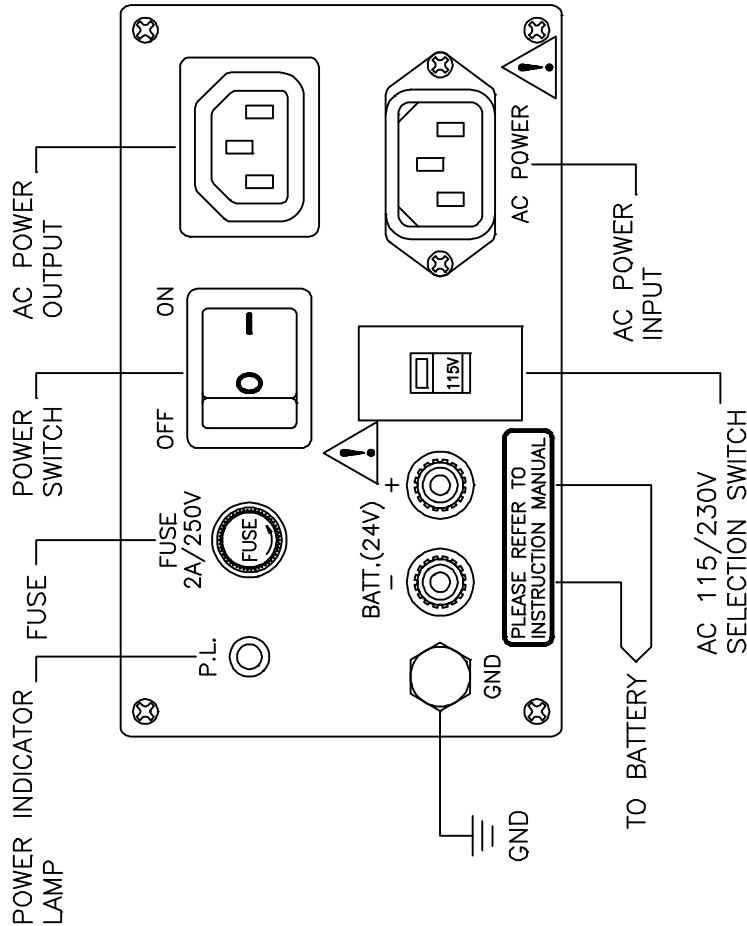

Figure 7: Power and Earth Ground Cabling
Connecting Power Cords Refer to Figure 7.
- 6.11 The ground wire used for chassis ground must be #12 AWG, or larger, standard copper wire. Ground wire used for single-point ground must conform to local building codes. There is a ground lug located on the lower left of the cabinet along with the power switch, and AC power cable. (Refer to Figure 7)
6.28 Immediately connect the Main and Expansion Cabinets to an approved earth ground facility, using a #12 AWG or larger stranded copper wire of sufficient length. A ground post is located on the lower left of the Main Cabinet to ensure the system is properly grounded. (Refer to Figure 7)
6.32 Connect the black mains power supply cable from the Expansion Cabinet to the AC Power Outlet socket on the lower left side of the Main Cabinet. (Refer to Figure 7)